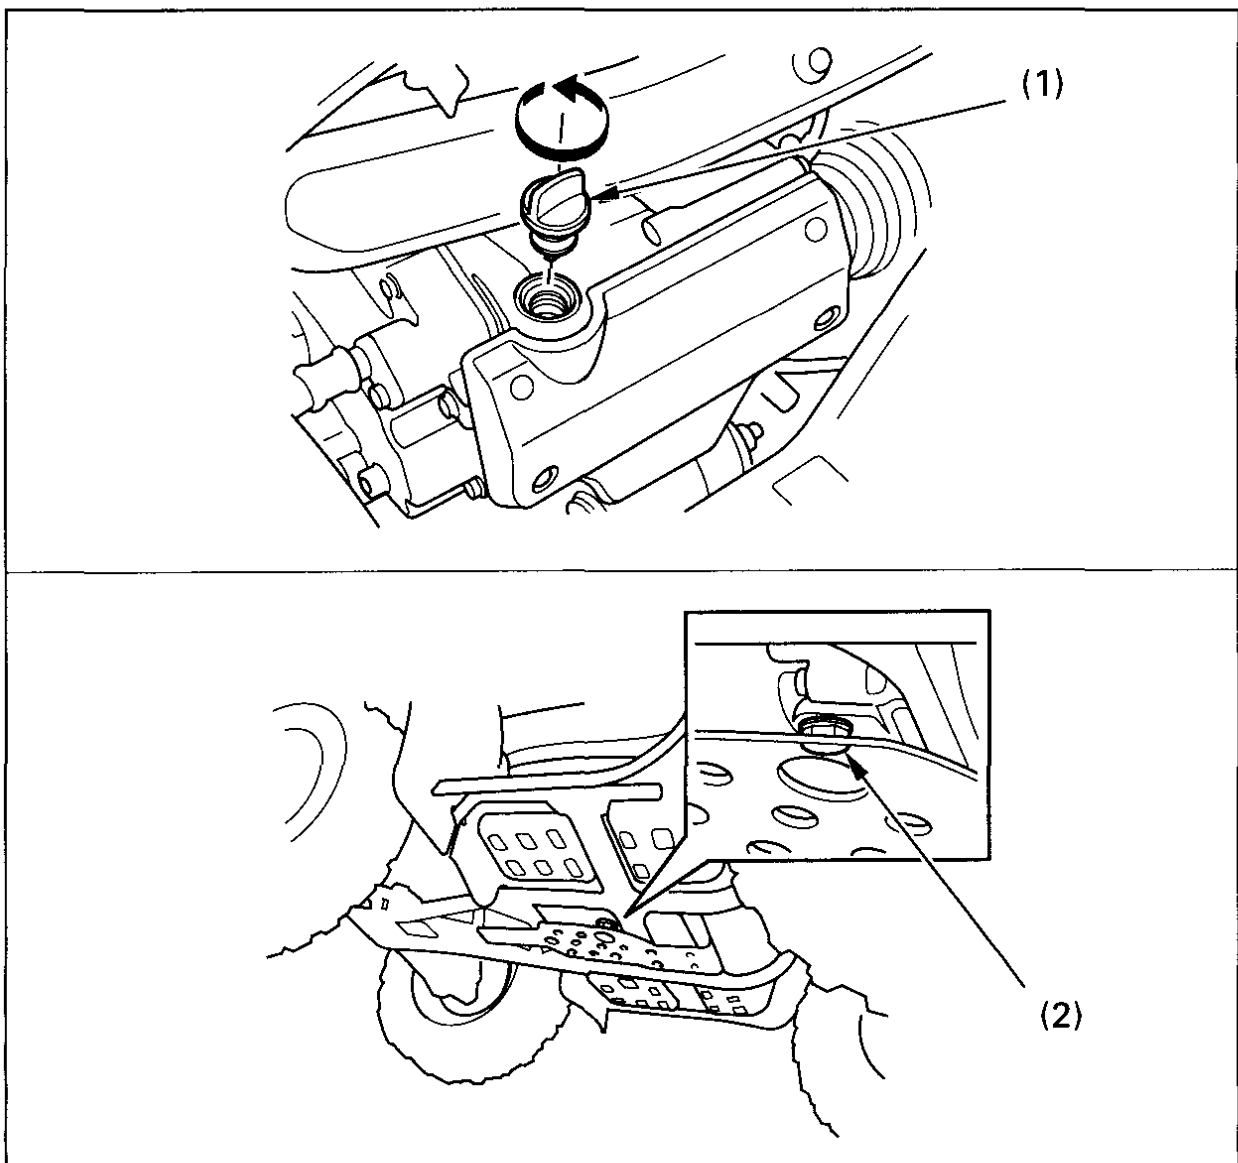

Fig. 4-12
1. With the FOURTRAX on level ground, remove the oil filler cap (1) from left side of the crankcase (Fig. 4-12).
2. Place an oil drain pan under the crankcase and remove the oil drain plug (2).